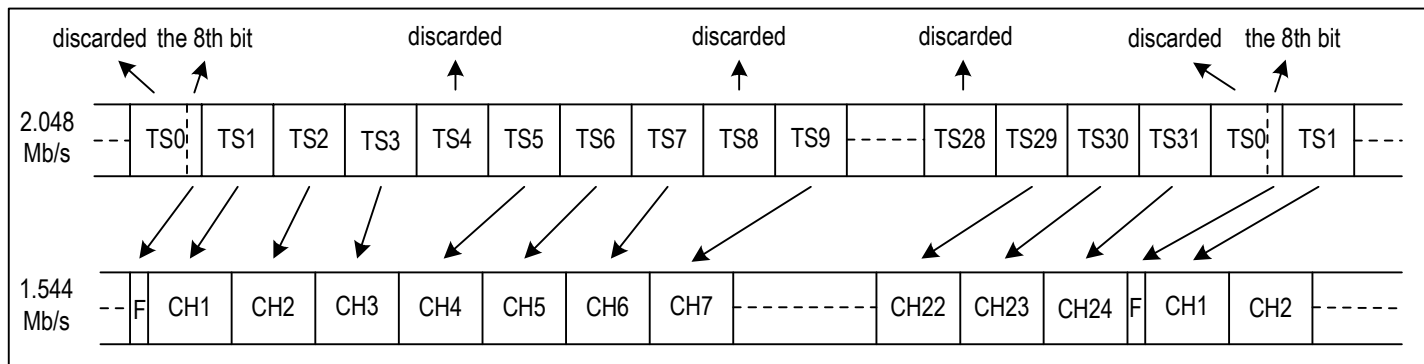

Figure 25. E1 To T1/J1 Format Mapping - One Filler Every Four Channels Mode
2. T1/J1 Mode E1 Rate per One Filler Every Four CHs (refer to Figure 25): The 8th bit of Frame N on the system side is converted to the F-bit of the Frame N to the device. Then one byte of the system side is discarded after the previous three bytes are converted into the device. This process repeats 8 times and the conversion of one frame is completed. Then the process goes on.